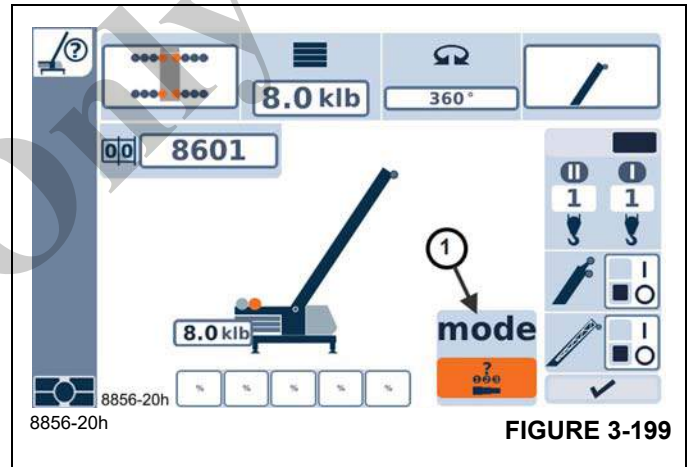
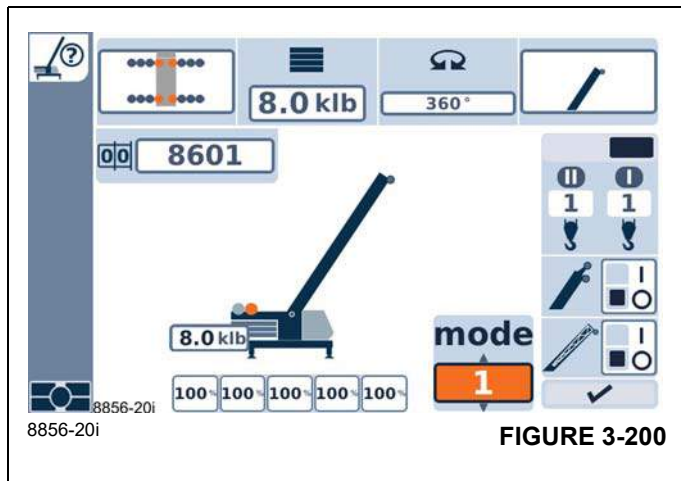

FIGURE 3-199
FIGURE 3-200
The telescoping status or pinned boom configuration can be selected from the RDM (RCL display). This is done by selecting a Telescoping Mode Number (1), (Figure 3-199). There are 6 available pre-selected Mode Numbers. Referring to (Figure 3-199), the Telescoping Mode Number is available to be selected since this option on the display is selectable. However, this is only selectable after the RCL has been initialized once (having previously used the check-mark on this screen), the telescoping function has been enabled, and the boom is fully retracted and locked.
With the Telescoping Mode Number option available, and using Enter on this item on the screen, the up/down arrows or jog dial can be used to select from 1 to 6. (Figure 3-199) shows the appearance for Mode 1. It is seen that Mode 1 has the requested pinned boom configuration of 100-100-100-100-100. If this is the desired configuration, then Enter can be used to select it. Then, when the check-mark is used on this screen, the new requested telescoping status will be used and the semi-automatic telescoping function commences. The ODM (operating display) can then be used to select a telescoping screen and the requested telescoping status should be shown on the ODM, as well.
NOTE: When the RCL configuration screen is used (such as shown in (Figure 3-199) and (Figure 3-200), the telescoping function is paused (unable to extend, retract, lock or unlock the boom). Once the checkmark is used, the telescoping function resumes.